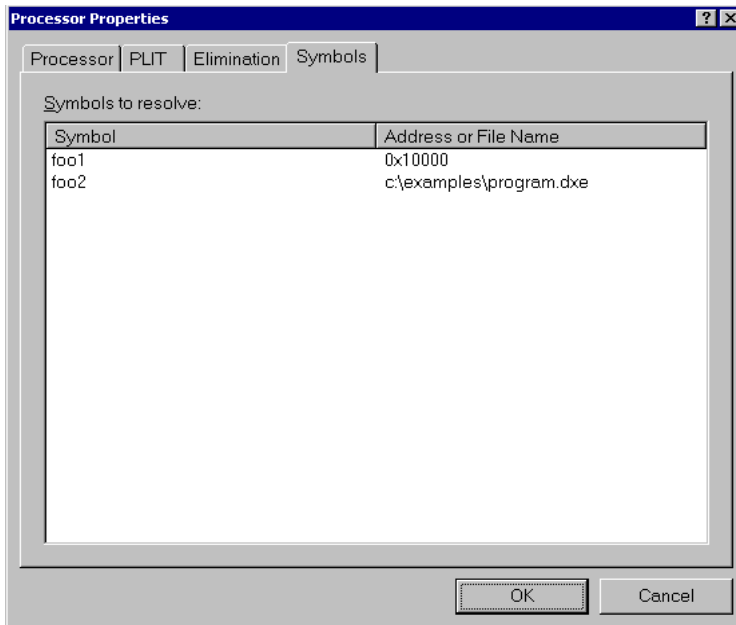

Figure 4-46. Processor Properties Dialog Box – Symbols Tab
2. Choose **Properties**. The **Processor** page of the **Processor Properties** dialog box appears. The **Symbols** tab allows you to specify how symbols are to be resolved by the linker (Figure 4-46).
1. Click **Browse** to display the **Symbols to resolve** list in the **Symbols** pane (Figure 4-46).